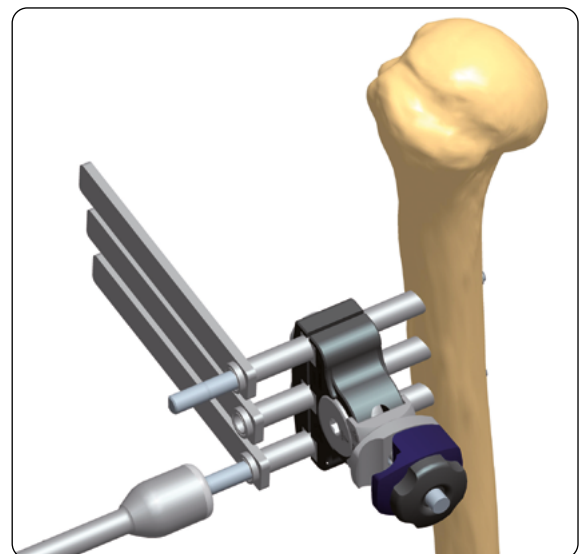

Fig. 3
3) Remove the drill bit and drill guide, keeping pressure on the handle of the screw guide. Insert a screw through the screw guide into the bone using the T-wrench (**Fig. 3**) or hand drill. While drilling, the hand drill should be held steadily so that the drilling direction is maintained throughout the procedure. The screw should completely engage the second cortex for bicortical purchase. Use the same technique for the second screw.